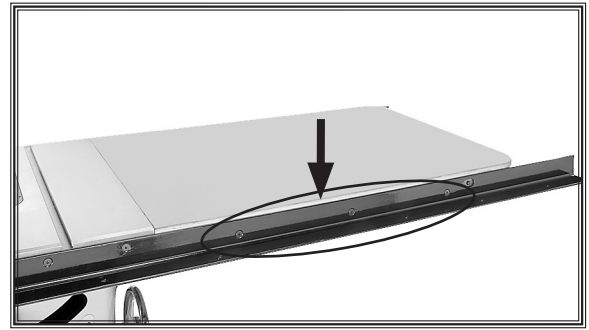
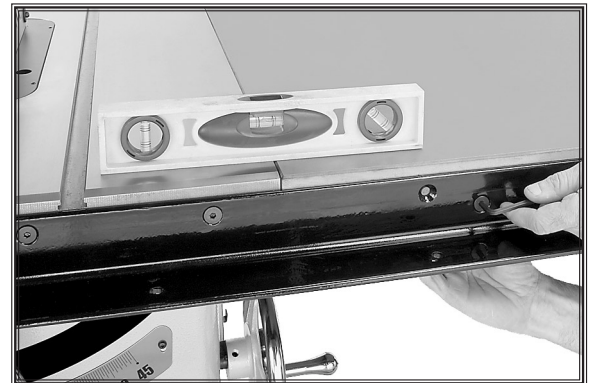

Figure 16. Front rail/table fastener locations.
Figure 18. Leveling main extension table.
5. While an assistant holds the extension table, fasten the 93" front rail to the extension table with three M8-1.25 x 25 flat head screws, flat washers and hex nuts (**Figure 16**). Finger tighten for now.
7. Align the table and extension table with a straight-edge (**Figure 18**), then tighten the fasteners in **Figure 16** with a 5mm hex wrench and 13mm wrench.